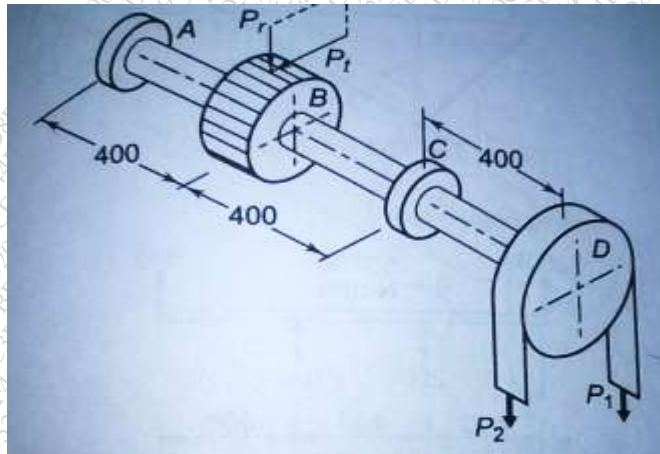

Fig.1
- (b) A transmission shaft supporting a spur gear B and pulley D is shown in Figure 1. The shaft is mounted on two bearings A and C. The diameter of pulley and the pitch circle diameter of the gear are 400 mm and 300 mm respectively. The pulley transmits 15 kW power at 550 rpm to the gear. P_1 and P_2 are belt tensions in tight and loose sides, while P_t and P_r are tangential and radial components of gear tooth force. 16